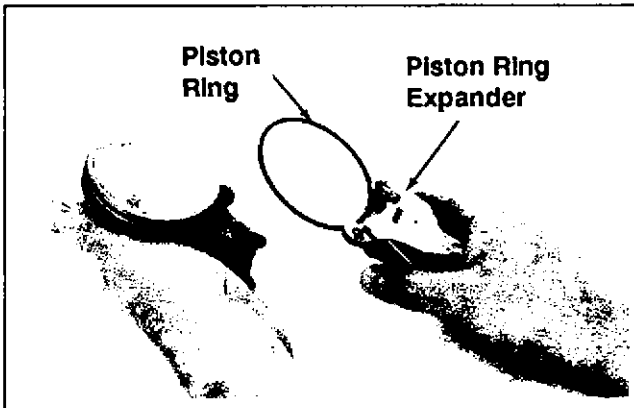

Figure 9-32. Removing Piston Rings.
- Remove the top and center compression rings using a ring expander tool. See Figure 9-32.